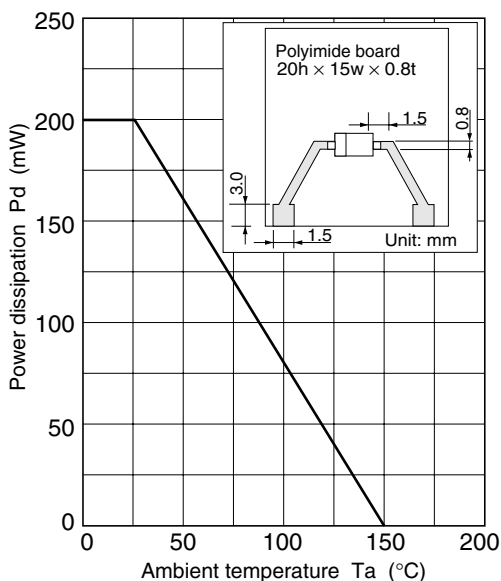

Figure 1. Power dissipation vs. Ambient temperature
- Notes: 1. See figure 1 in section 3.14.